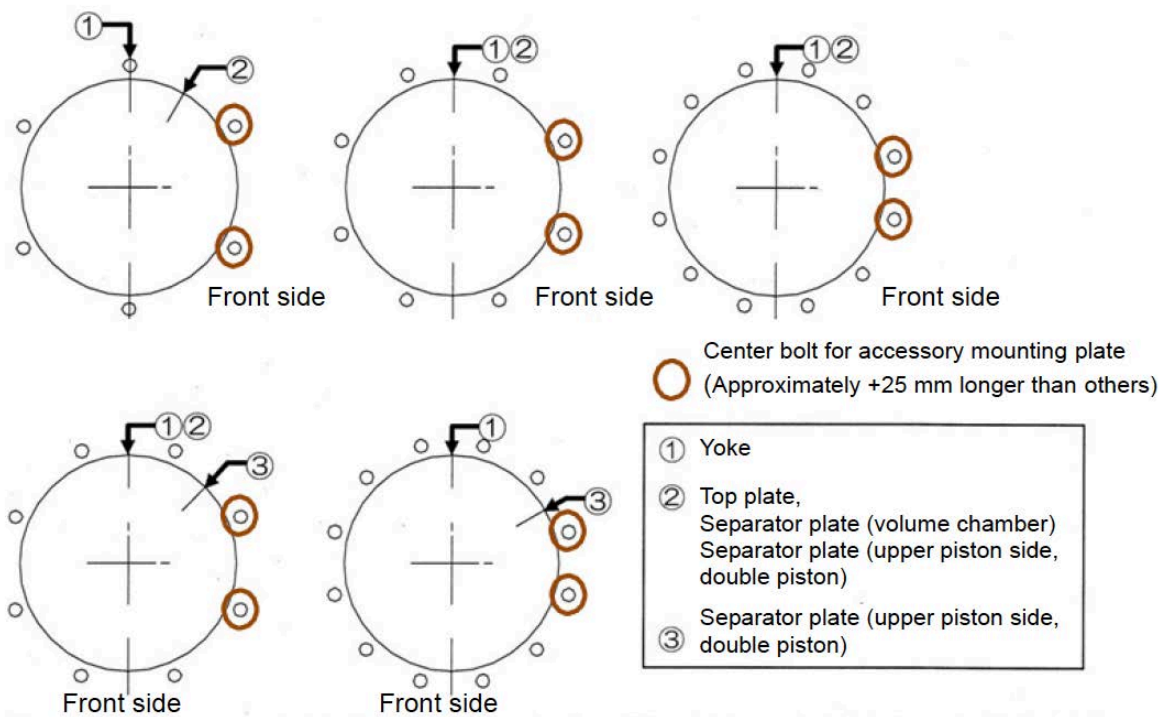

Figure 17 - Center bolt Positioning
10. Replace the rod scraper (34) with a new part. Coat the rod scraper with silicone (or equivalent).
11. Replace spring unit, spring tube (7), separator plate (13), piston subassembly (15).
12. Replace the O-ring (21) on the top plate (17) and the O-ring (21) and guide ring (16) on the piston plate S/A (15) with new parts. Coat the O-rings and guide ring with silicone grease (or equivalent).
13. Replace cylinder tube (14), and top plate (17) with only axial movement. Coat the inner surface of the cylinder tube with silicone grease.
14. Ensure the positions of the air connections are correct. Insert the center bolts into the holes of the top plate and yoke. Mount the spring washers and nuts and tighten them lightly by hand. Mount the spring washers and nuts to the bottom side of the yoke by hand. Ensure that the position of center bolts (approximately +25 mm longer than others) for the accessory mounting plate, if equipped, complies with Figure 17.